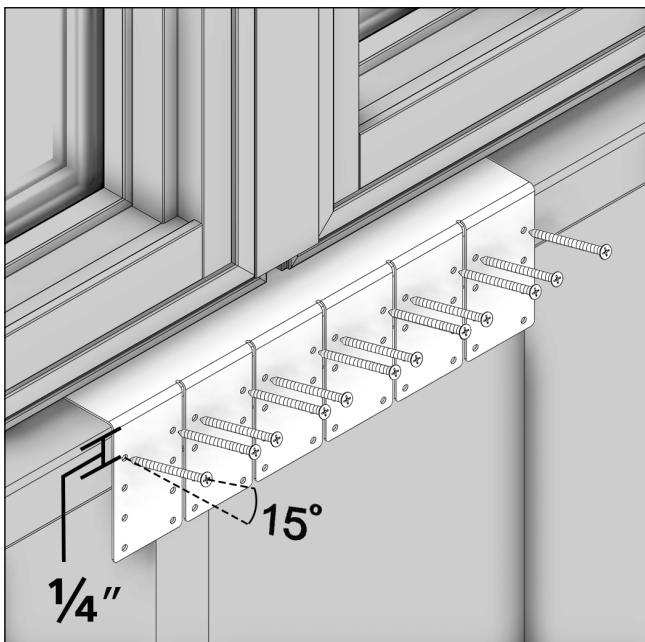

Figure 17
9. Bend gussets against wood framing as shown in Figure 17. Attach the gussets with twelve #8 x 1-5/8” screws. Make sure that the screws are no more than 1/4” from the bend in the bracket (edge of wood buck). Angle the screws approximately 15 degrees toward the thicker part of the framing member. *NOTE: It may be necessary to drill two 5/32” holes in the bracket.*